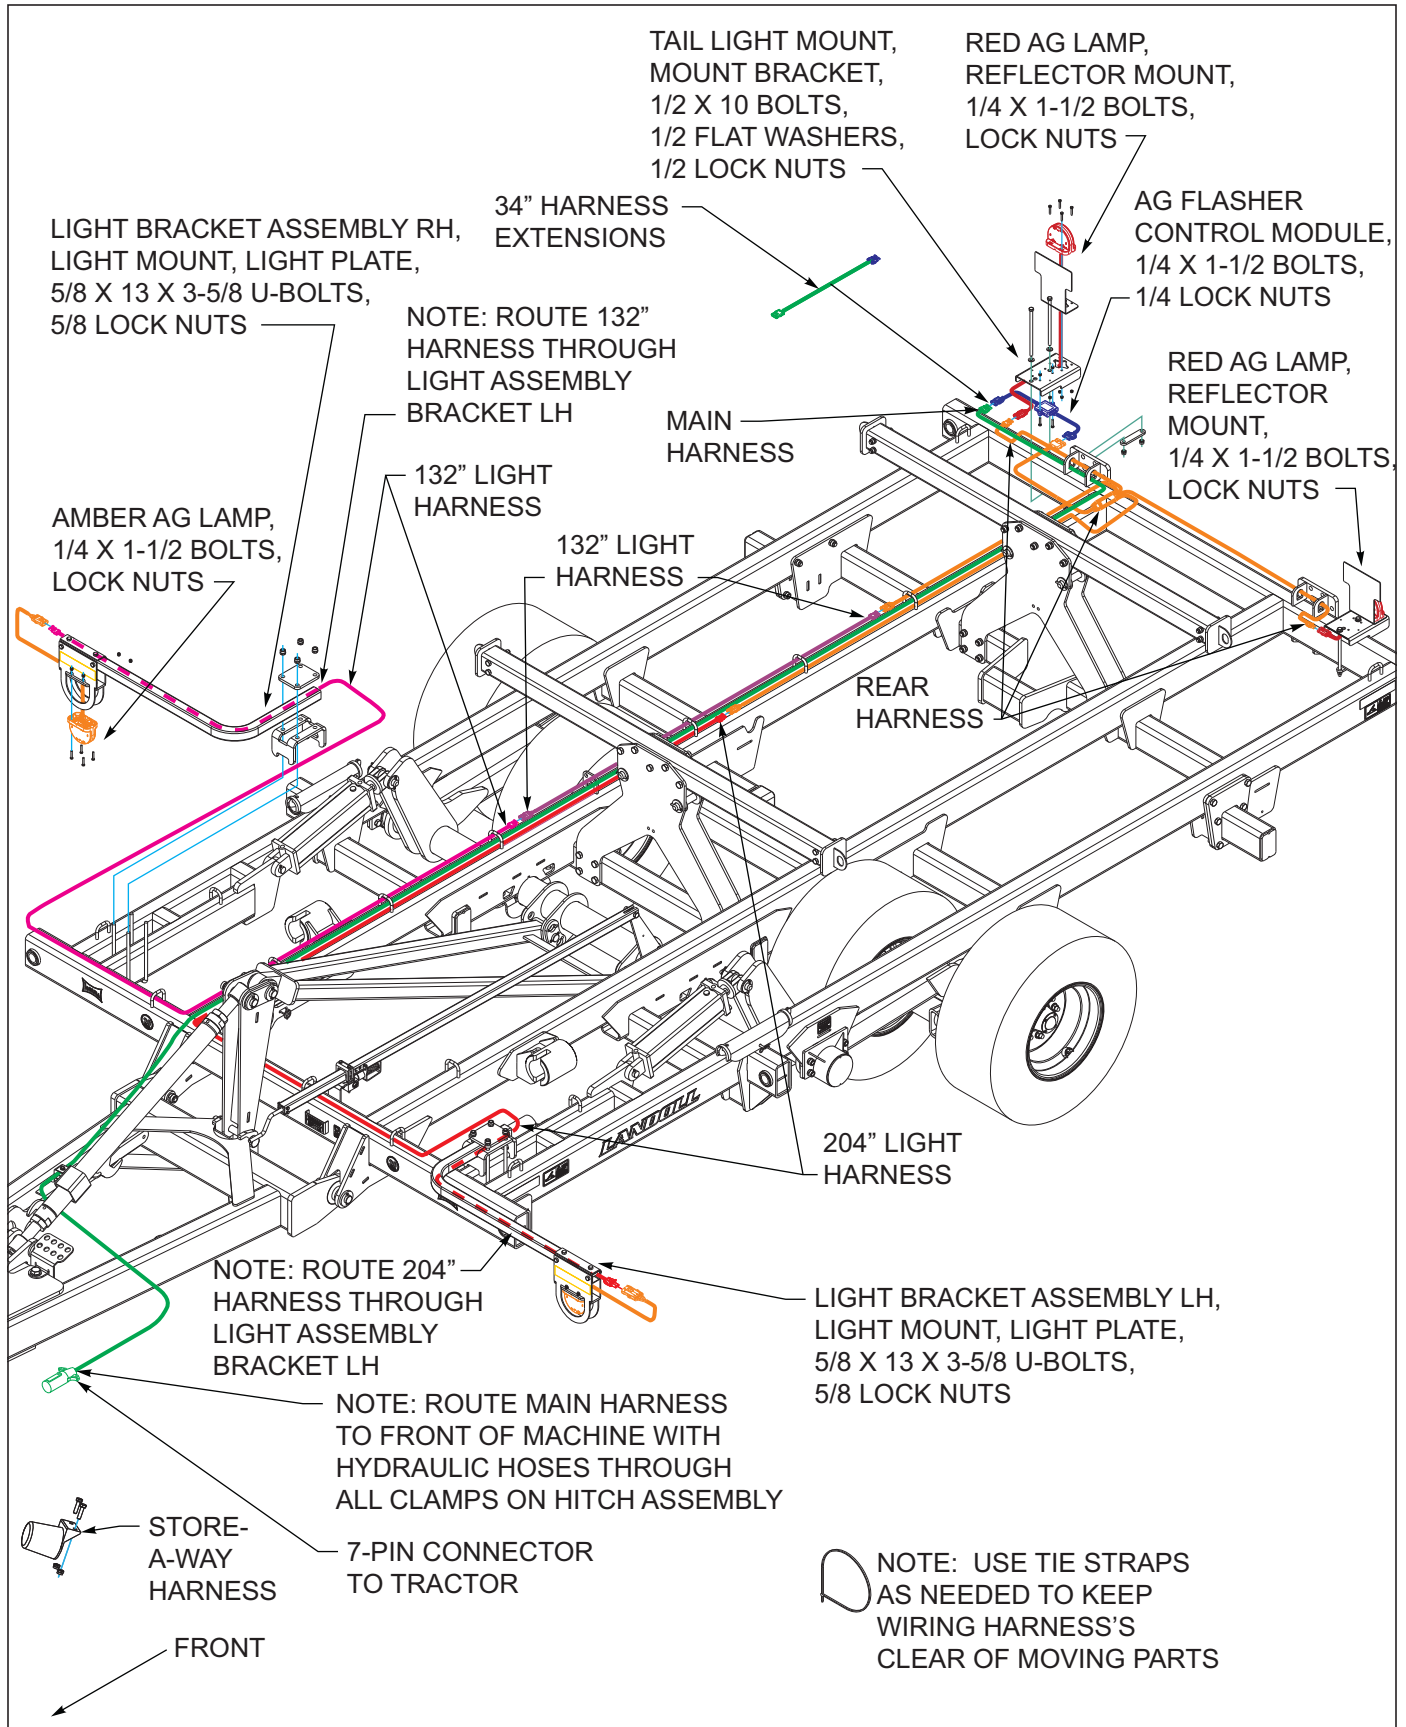

Figure 3-22: LED Light Installation
1. Attach LH and RH light bracket assemblies, light mount, light plates to center frame using 5/8 x 13 x 3-5/8 u-bolts, 5/8 lock nuts See Figure 3-22.
11. Two 34" harnesses are provided if needed for main harness to reach from flasher control module to the tractor See Figures 3-22.